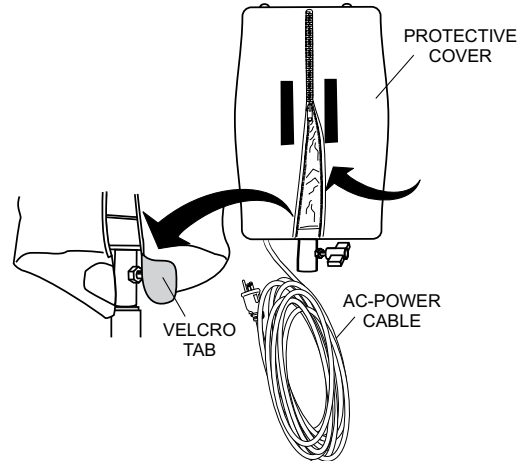

Figure 22. Zipping the Protective Cover
3. Unhook lamp AC power cable from washer eyelet (Figure 14). Fully zip protective cover and fold velcro tab in place (Figure 22).